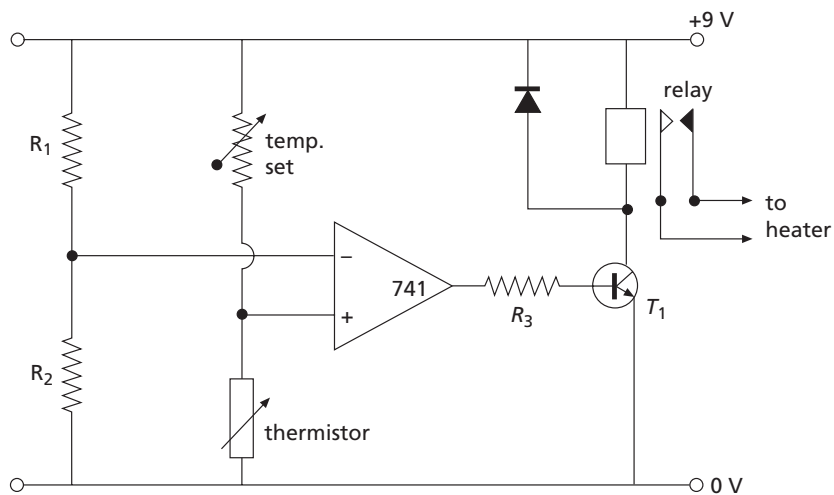

Figure 24.24
- ***23 Figure 24.24 shows an Op-Amp temperature sensing and heater circuit. The resistance of the thermistor decreases with an increase in temperature.